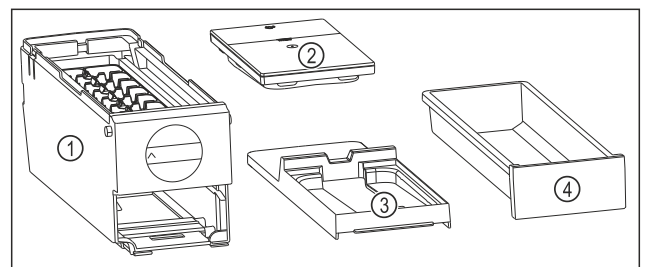

Fig. 123 Components of the EasyTwist-Ice
- ▶ EasyTwist-Ice is dismantled into four parts. (see Fig. 123)
- ▶ Only dismantle the EasyTwist-Ice into the components shown. (see Fig. 123)
- ▶ Clean the EasyTwist-Ice body Fig. 123 (1) as a whole.